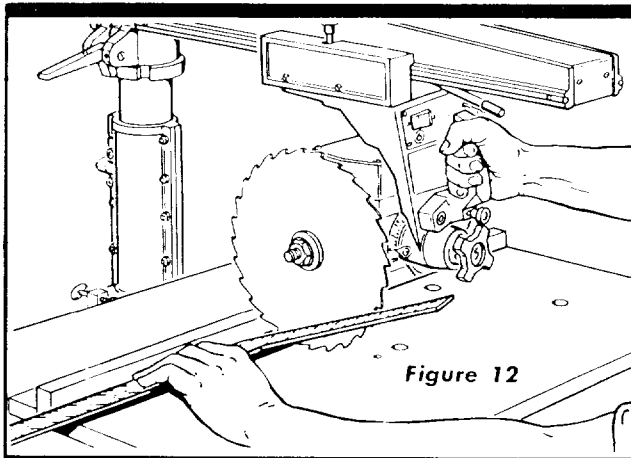

Figure 12
1. Place a square against the rip fence and the saw blade as shown in figure 12. The long leg of the square must be held firmly against the rip fence and the short leg must not touch any of the teeth on the saw blade.